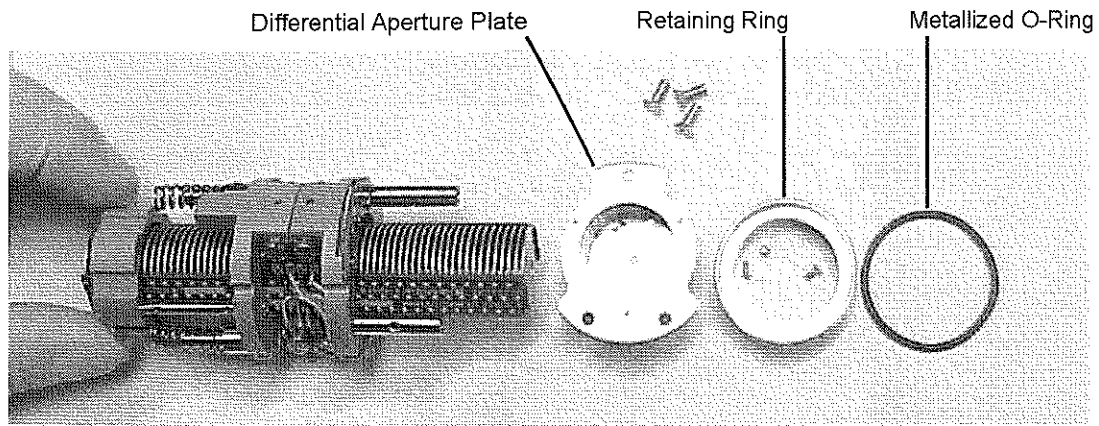

Figure 7-8 Source T-Wave Assembly Components
5. Remove the differential aperture plate from the assembly. The source T-Wave assembly components are shown in Figure 7-8.